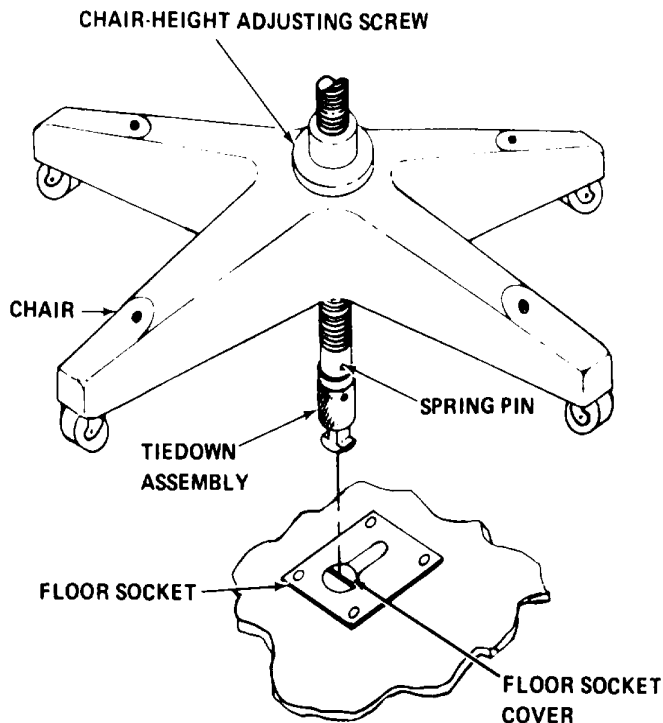

Figure 2-1. Chair Tiedown Assembly
a. Chair. The chair tiedown, figure 2-1, consists of a spring-loaded tiedown assembly which mates with a key slot-shaped socket in the shelter floor. The chair-height